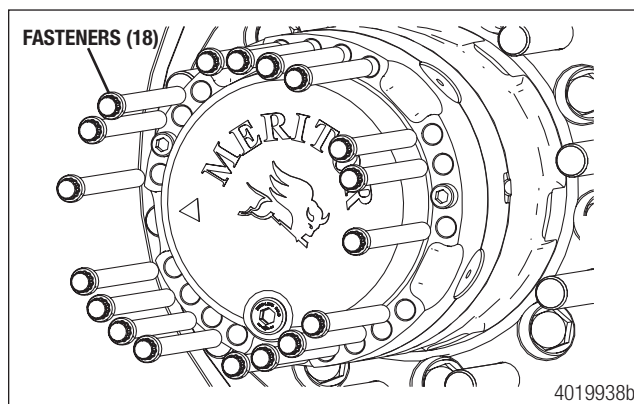

Figure 17
- h. Install the 18, M12 X 1.75-6g fasteners on the hub reduction wheel-end assembly and tighten to 74-96 lb-ft (100-130 Nm) using a 12-point socket. Figure 17.